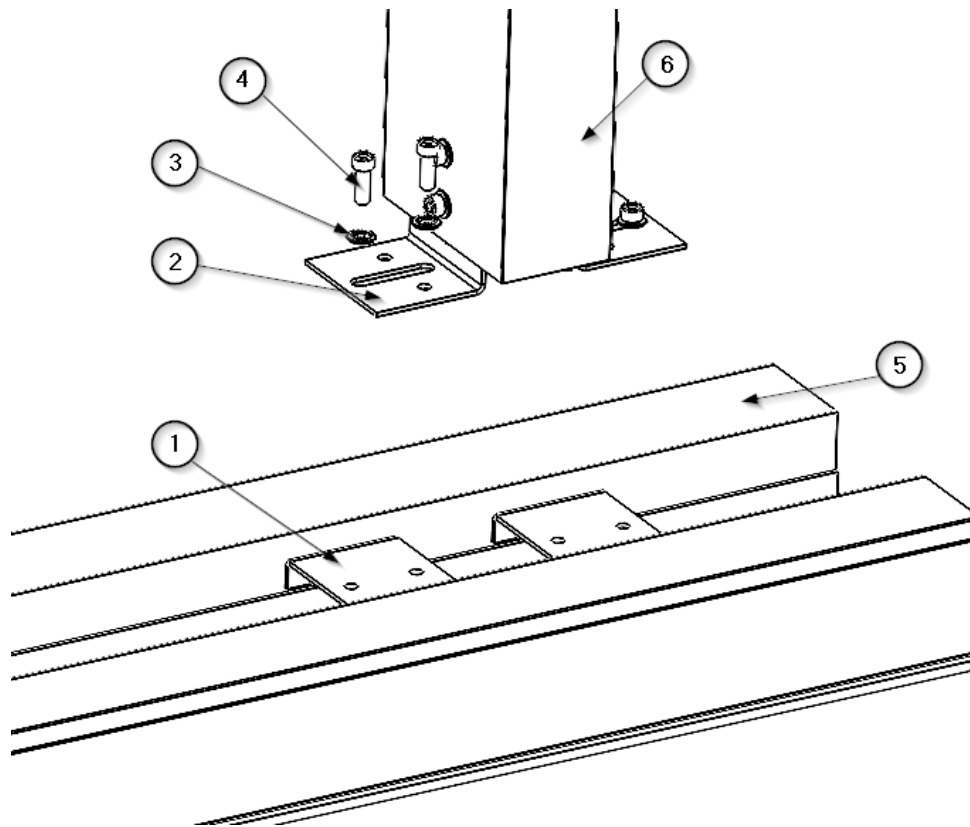

Fig. 11 Anchoring diagram of an ATLAS main body section on a downpipe
- Use the suction cup ④ to remove the upper cover between the two downpipes. This cover is snapped on.
- First attach the top covers ①. You will hear a sound when the clipping is done. If it is the cover on the side, slide it until it makes contact with the downpipe ② and then clip it on.
Inside each suspended head section ⑤ (main body) there are brackets ①, M8 x 25mm Allen screws ④ and S10 lock washers ③ for connection to the plates ② that come on the downpipes ⑥. See figure 11.